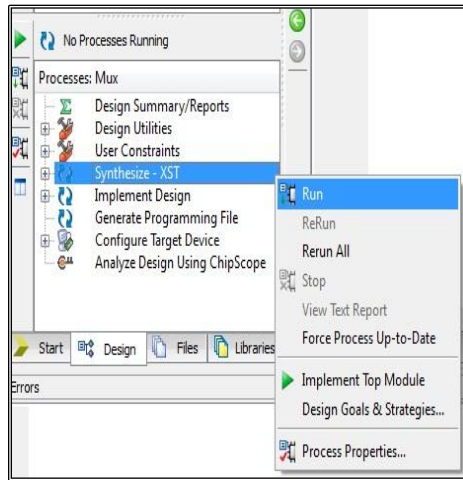
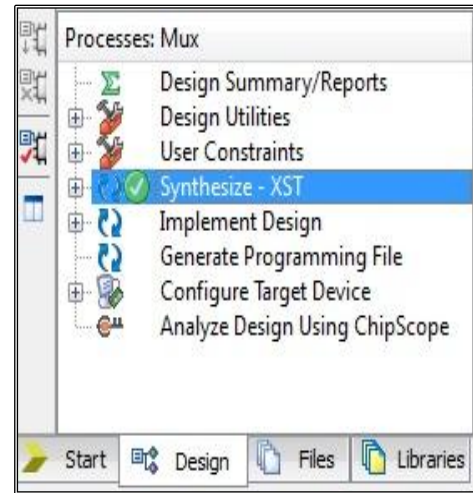

Fig 2.24: Synthesize
Fig 2.25: Synthesis Successful
24. Next we have to synthesize the design. For synthesis right click on the **Synthesize-XST**(Fig 2.24) and select Run. If the design is successfully synthesized then green check will appear near the Synthesize-XST (Fig 2.25).